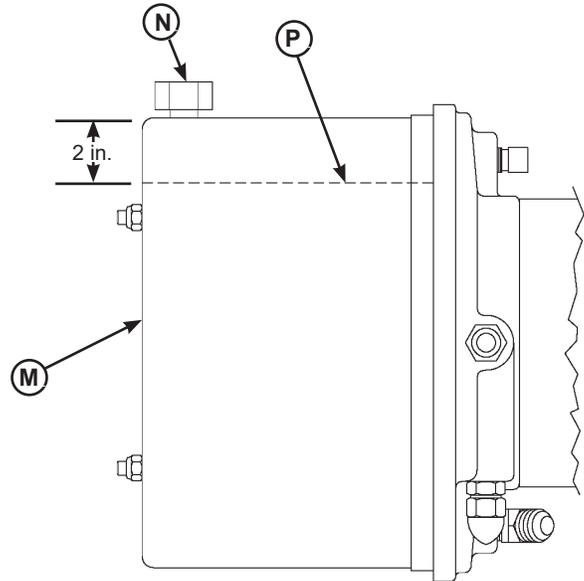

Figure 25
- Check reservoir fluid level (P, see Figure 25):
3. Remove inspection plate (C) and remove breather cap (N).
4. Measure fluid level. The fluid level should be approximately 2 in. (51 mm) from top of reservoir (M) with platform at the below-dock position.